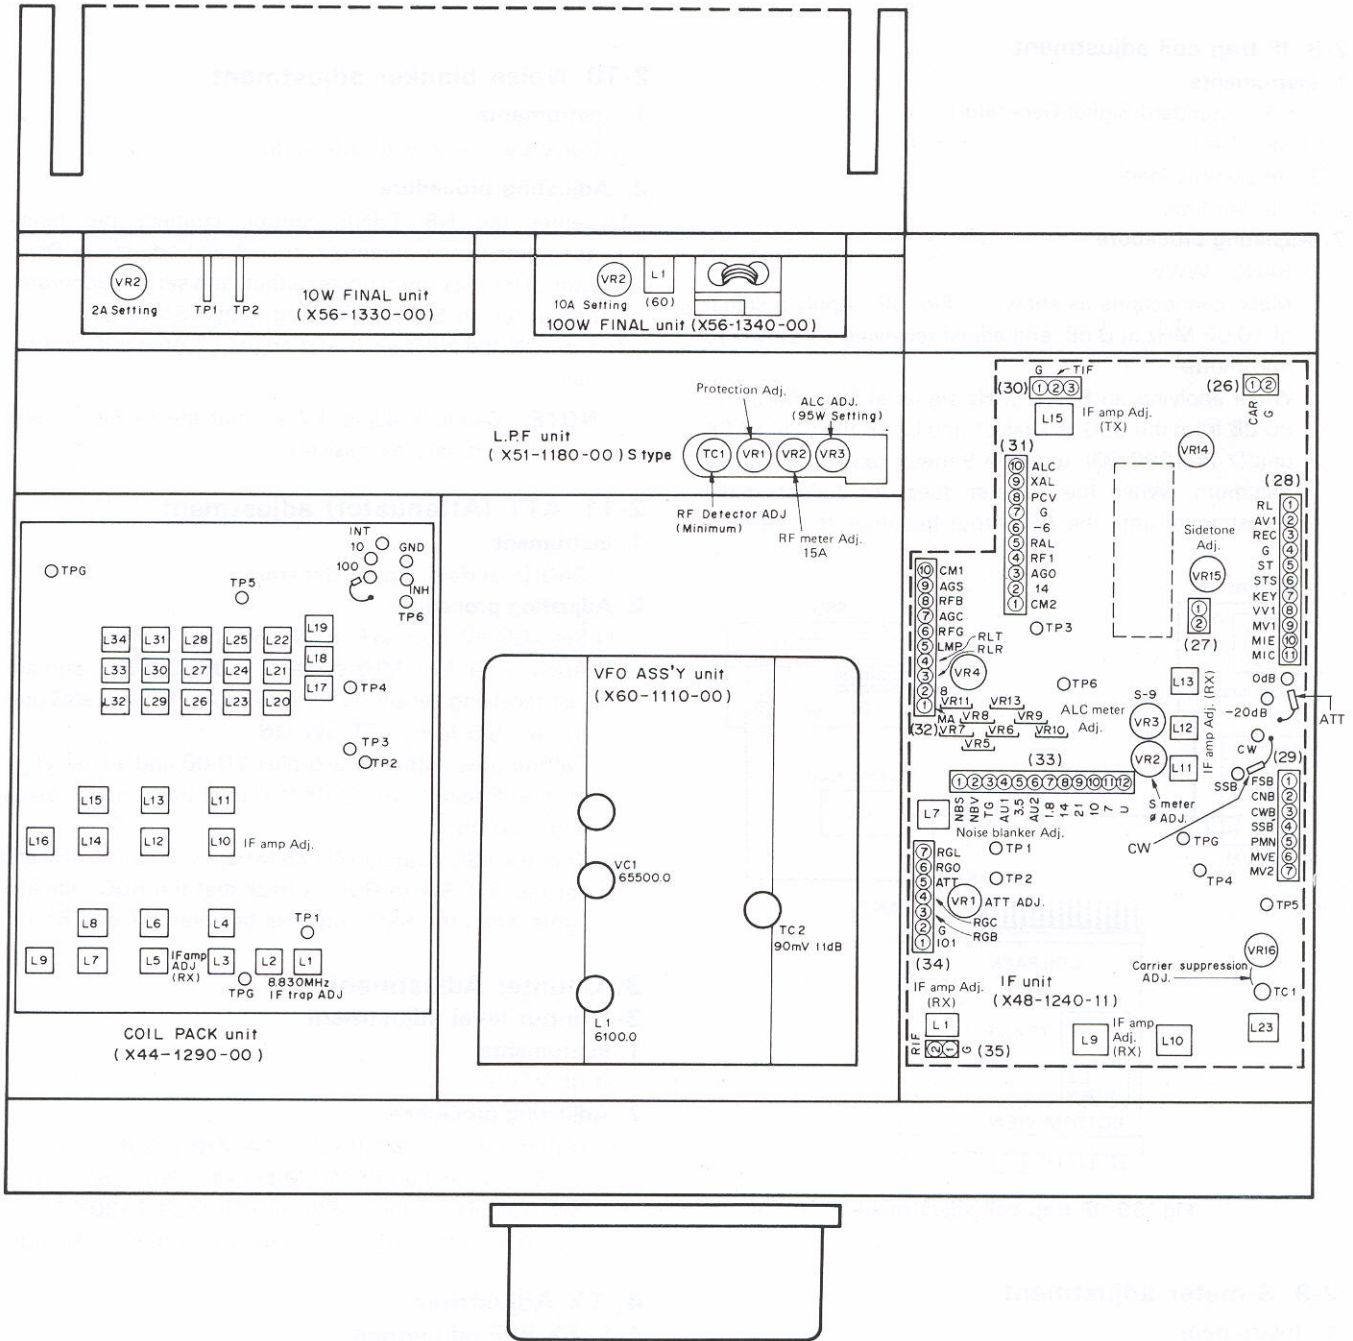

Fig. 38 TS-180 Bottom view
- 2) Apply SSG output at 60 dB (500  $\mu$ V) to the antenna terminal and adjust the COILPACK unit (X44-1290-00) in the order listed for maximum AF output and sensitivity. Reduce the SSG output as sensitivity increases (refer to Fig. 38 Table 3).
- 3) Adjust T4 on the RF unit (X44-1280-00), L1, L9 to L13 on the IF unit (X48-1240-11) and L3, L10 on the COILPACK unit (X44-1290-00) for maximum S meter reading. After adjustment, turn the L9 core counterclockwise 180° from oscillation starting point. (refer to Fig. 38)
Turn the Meter switch to the Ic position, and adjust VR2 in the FINAL for an Ic meter reading of 10 A. (refer to Fig. 38)